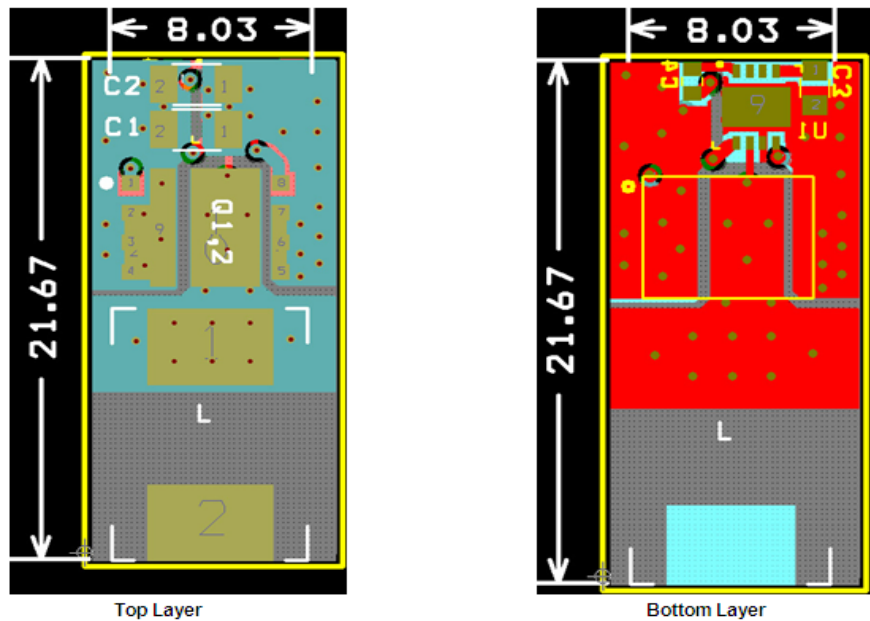

Figure 31. Recommended PCB Layout
2. The PHASE copper trace serves two purposes; In addition to being the current path from the Power Stage package to the output inductor (L), it also serves as heat sink for the lower FET in the Power Stage package. The trace should be short and wide enough to present a low resistance path for the high current flow between the Power Stage and the inductor. This is done to minimize conduction losses and limit temperature rise. Please note that the PHASE node is a high voltage and high frequency switching node with high noise potential. Care should be taken to minimize coupling to adjacent traces. The reference layout in Figure 31 shows a good balance between the thermal and electrical performance of Power Stage.
loss due to copper trace resistance. A shorter and wider PHASE trace to the inductor reduces the conduction loss. Preferably the Power Stage should be directly in line (as shown in Figure 31) with the inductor for space savings and compactness.